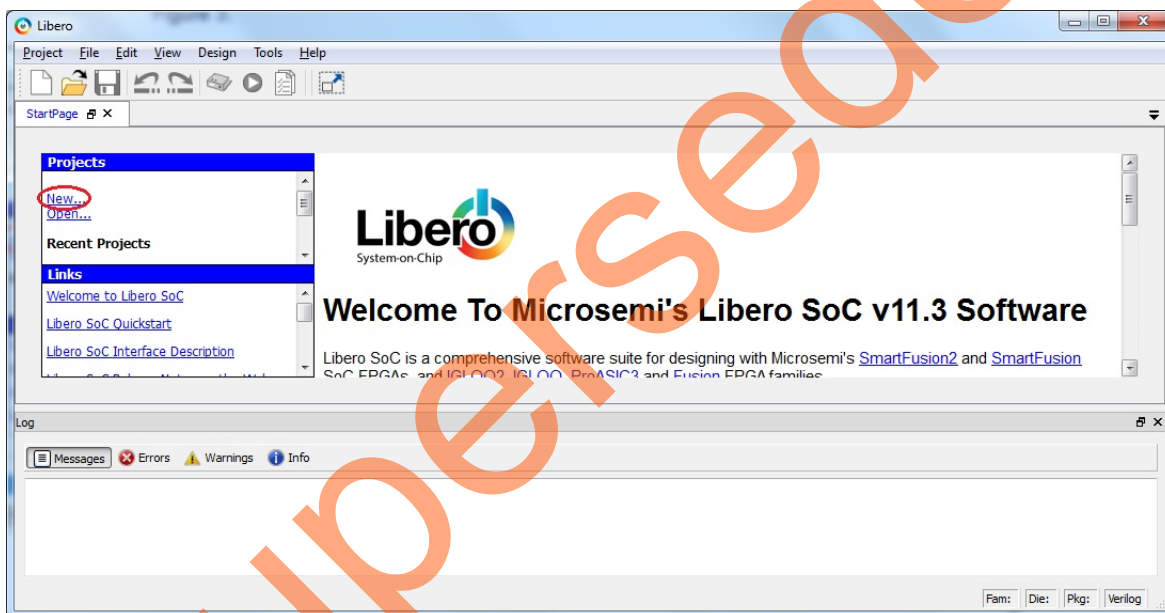
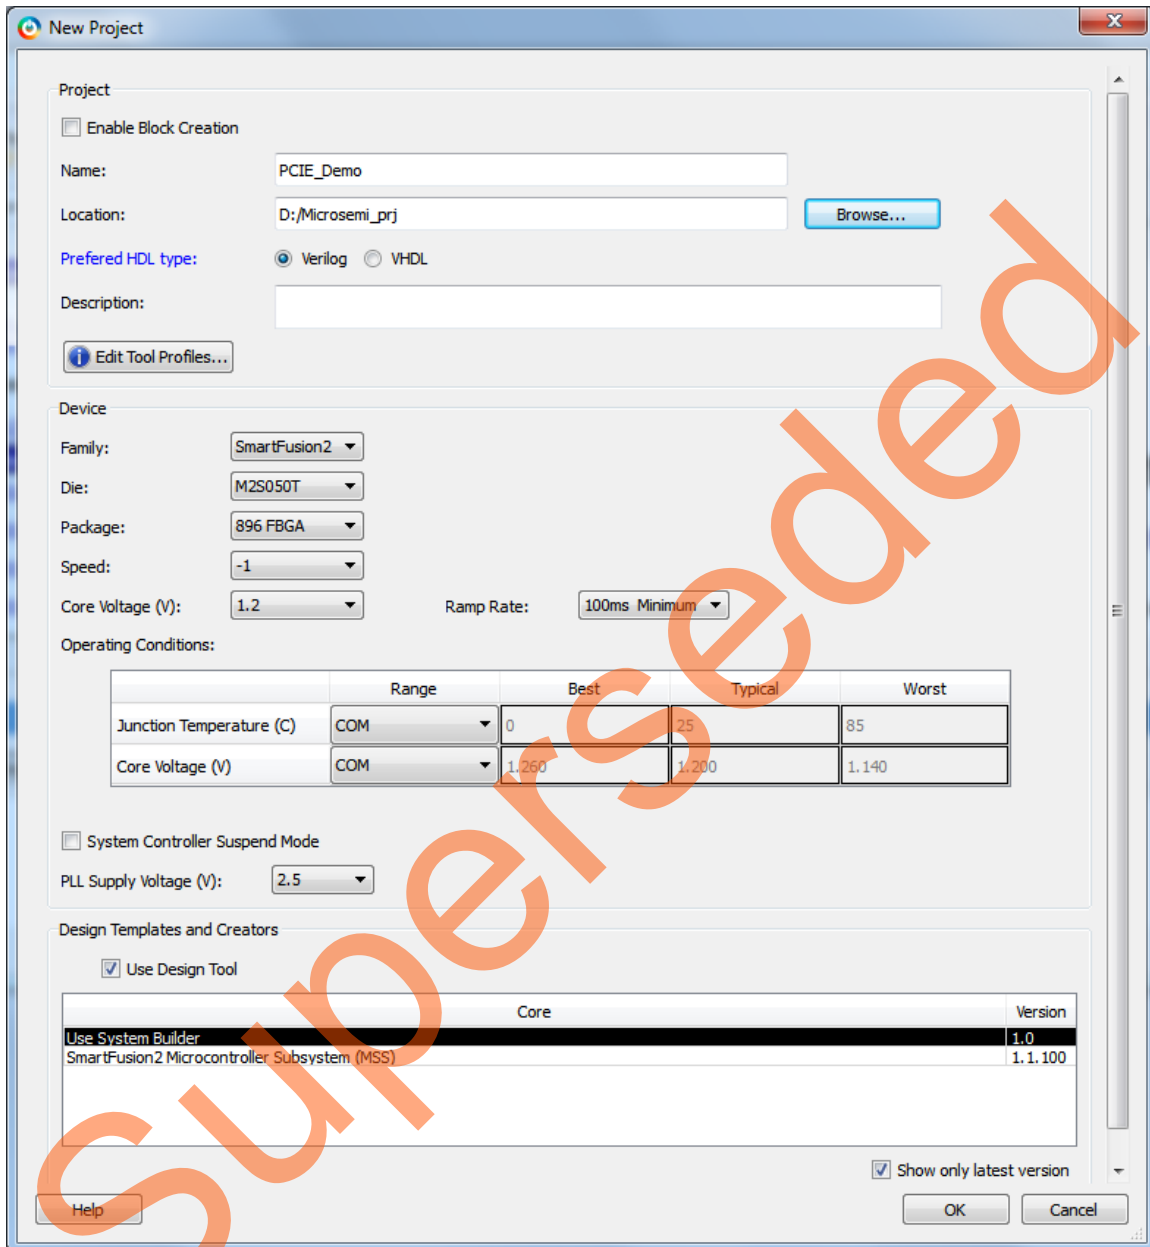

Figure 3 • Libero SoC v 11.3 Project Manager
Figure 4 • Libero SoC v 11.3 New Project Dialog Box
1. Click **Start > Programs > Microsemi Libero SoC v11.3 > Libero SoC v11.3**, or click the shortcut on your desktop. The Libero SoC v11.3 Project Manager is displayed as shown in Figure 3.
2. Create a new project by selecting **New** on the Start Page tab (highlighted in Figure 3), or by clicking **Project > New Project** from the Libero SoC menu. Enter the information as required for the new project and the Device in the **New Project** dialog box as shown in Figure 4 on page 7.
3. Select **Use Design Tool** and **Use System Builder** in the Design Templates and Creators section of the New Project window as shown in Figure 4 on page 7.